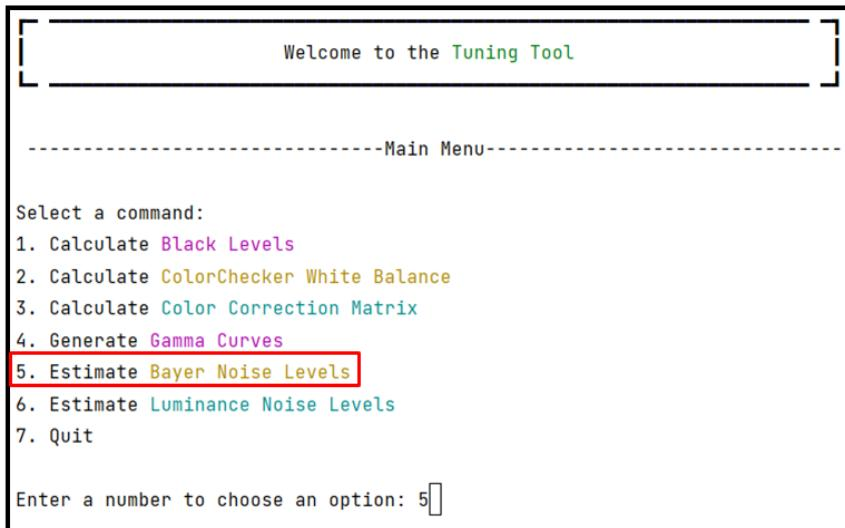

Figure 27: Selection of BNE from the main menu
- Access the tuning tool main menu and choose 5 to select the Bayer Noise Estimation module as seen in Figure 27.